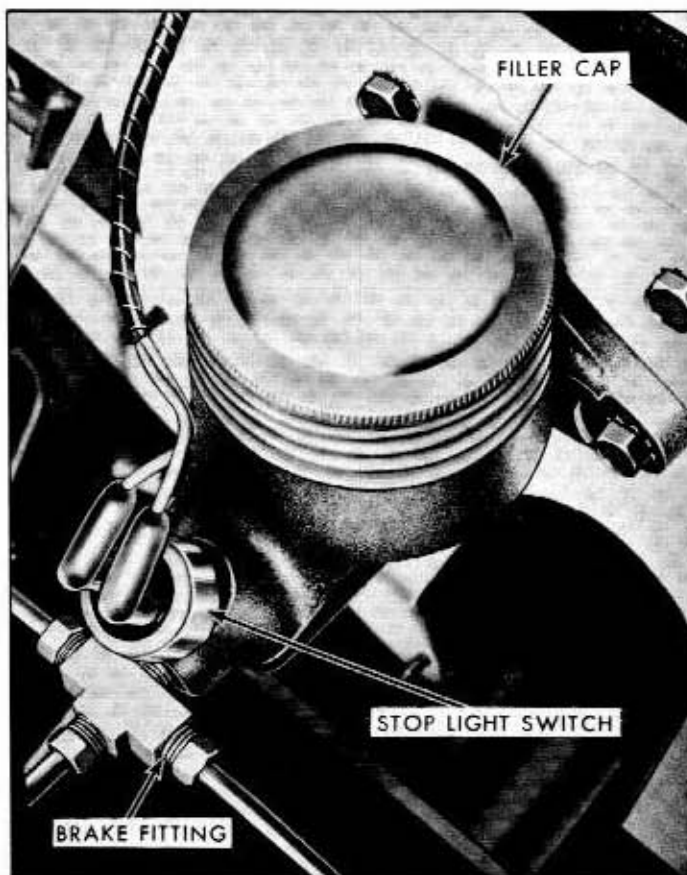

Fig. 2-6—Brake Master Cylinder—Installed—(60C-2006)
2. Disconnect the brake lines from the brake fitting and disconnect the stoplight wires See figure 2-6.
2. Install the brake fitting on the forward end of the cylinder. See figure 2-6.